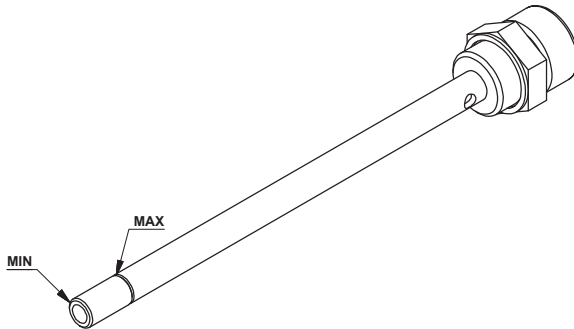

FIG. 21
- Check that the level is between the minimum and maximum indicated on the dipstick (Fig. 21)